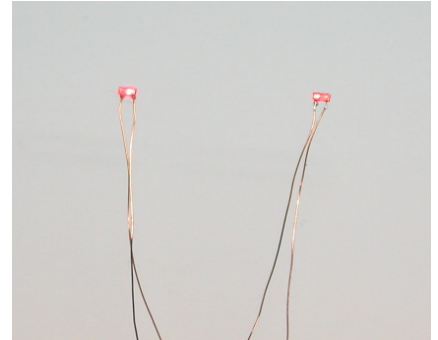

figure 1: Red LEDs with black marking
2. The product can be seen in figure 1. These instructions are part of the product. Please retain them well.